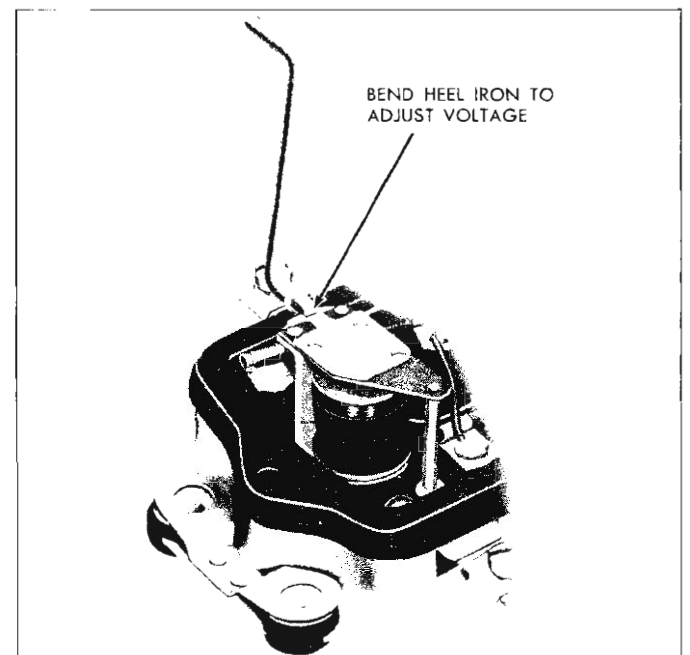

Fig. 18—Adjusting Field Relay Unit Closing Voltage
4. Slowly decrease resistance and note closing voltage of the relay. Adjust by bending heel iron in the manner illustrated in Figure 18.